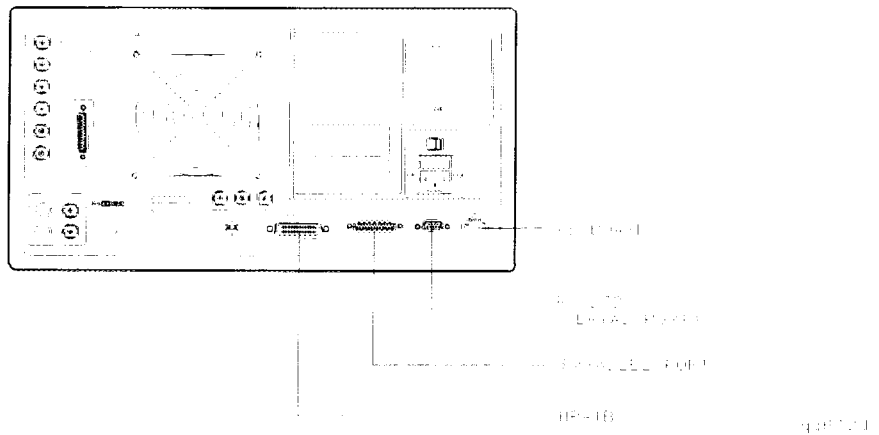

Figure 1-6. Rear Panel Peripheral Connections
- 1 Connect a printer or plotter to the corresponding interface port. Refer to Figure 1-6 on page 1-11 for the appropriate rear panel connection.